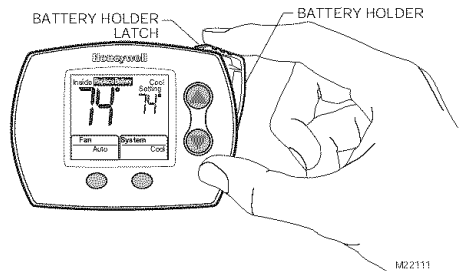

Fig. 24. Battery holder.
- Replacement Battery Holder (see Fig. 24):